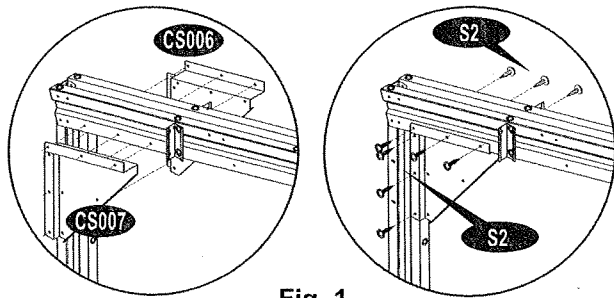

Fig. 1
17. Fix structure side bracket left (CS006) and structure side bracket right (CS007). Line up the holes and secure with (S2) screws. See fig. 1 & 2.